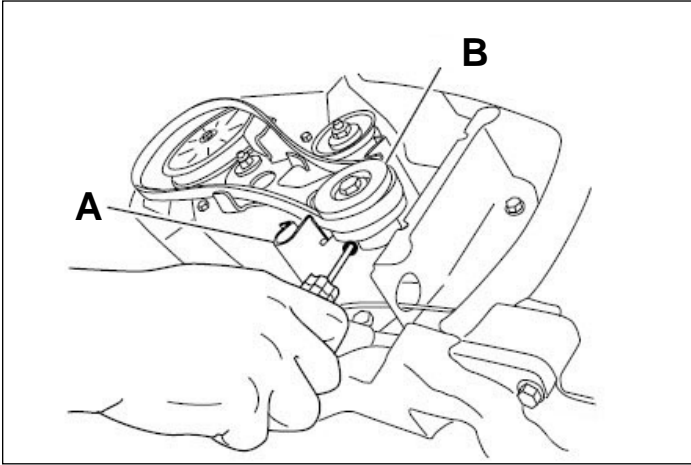

Fig. 007
5. Insert a screwdriver into the hole in the belt guide as shown in Fig. 007 and flex the belt guide toward the rotor pulley enough to pull the belt through the gap.